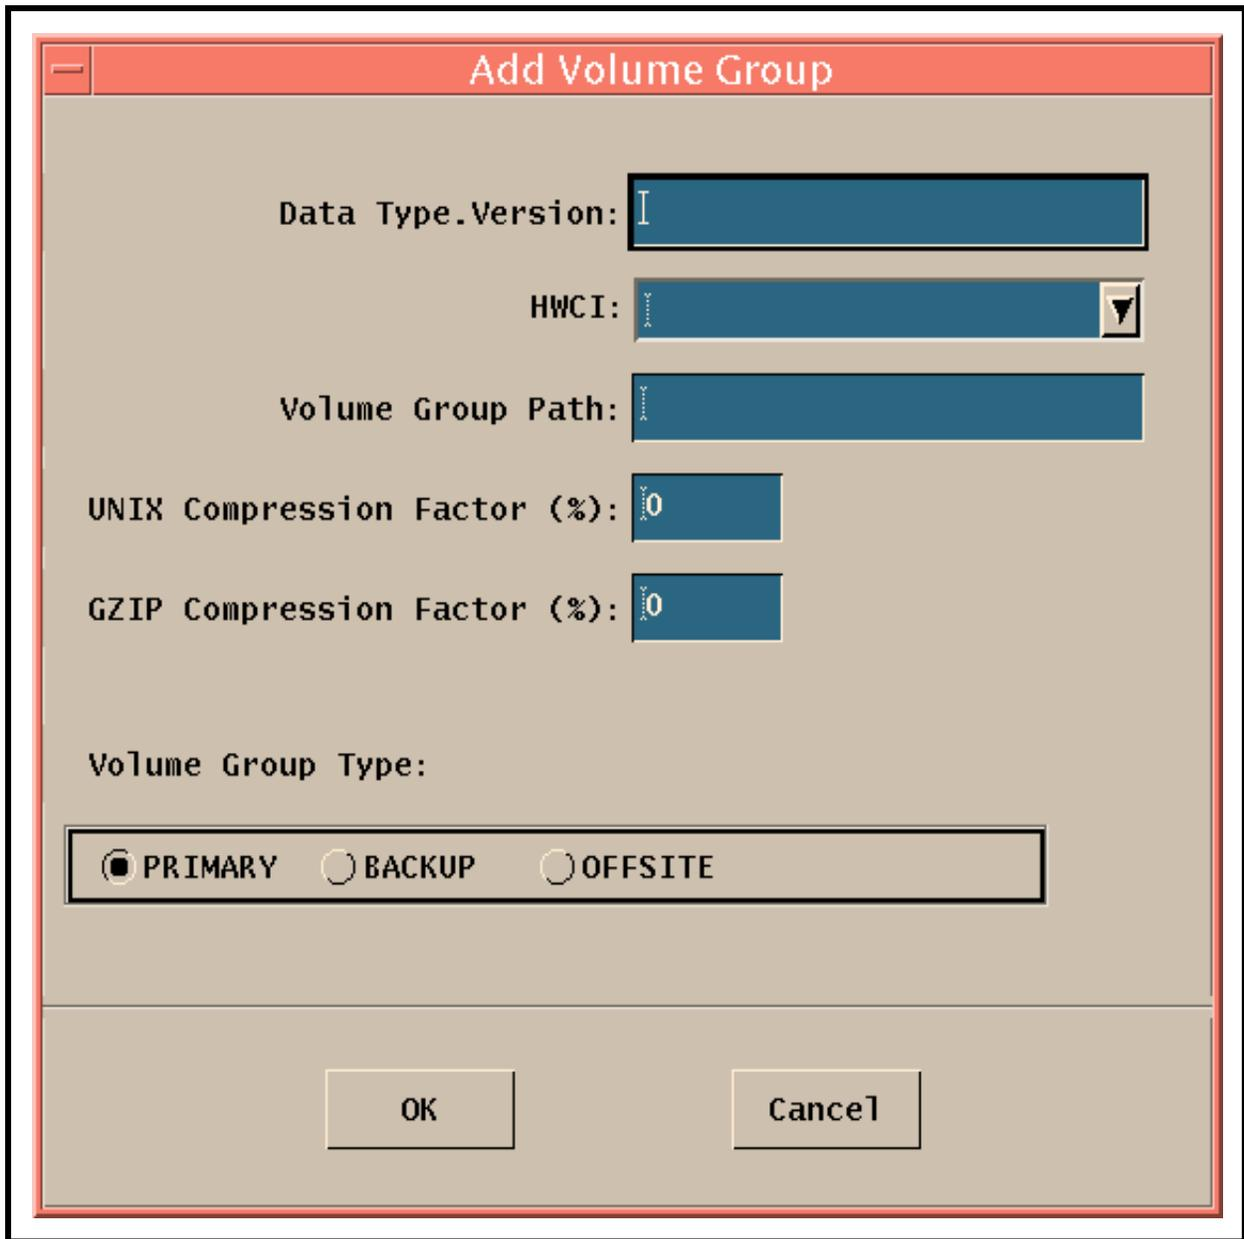

Figure 19. Add Volume Group GUI
- The **Add Volume Group** GUI (Figure 19) is displayed.